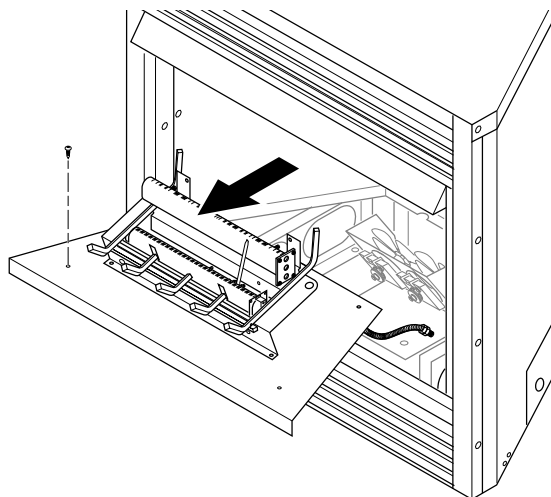

Figure 17 - Removing Log Base Assembly From Fireplace
3. Remove screws that attach log base assembly to fireplace (see Figure 17). Carefully lift up log base assembly and remove from fireplace (see Figure 17).